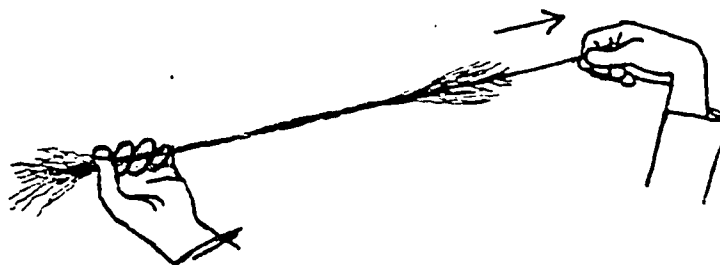

Figure 2. Pulling fibers from a twisted bundle.
7. Put the fibers back together and give the whole bundle five or ten twists. Now pull out a few of the fibers (Figure 2).